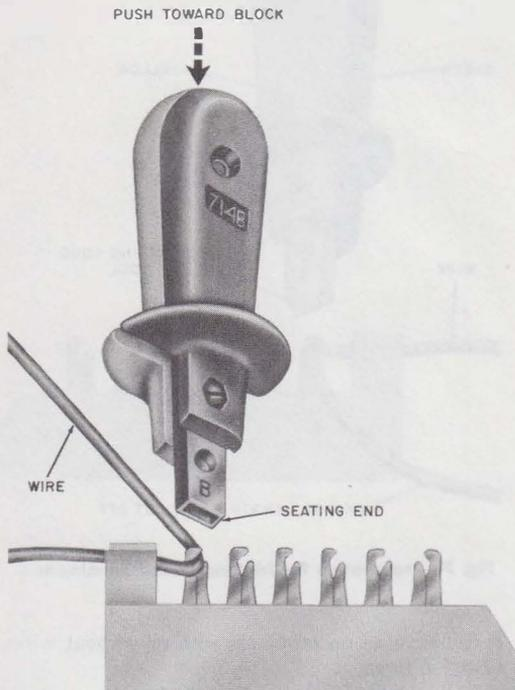

Fig. 3—Preparation for Looping Termination
3.05 To make a looping termination on a 66-type connecting block (Fig. 3 and 4), perform the following steps.
- (1) Select wire to be terminated.
- (2) Work wire into fanning strip.
- (3) Place wire in hook of terminal, using fingers or long-nose pliers.
- (4) Place seating end (cutting end of blade turned into handle) of 714B tool over terminal (Fig. 3).
- (5) Press tool toward block until wire is fully seated.